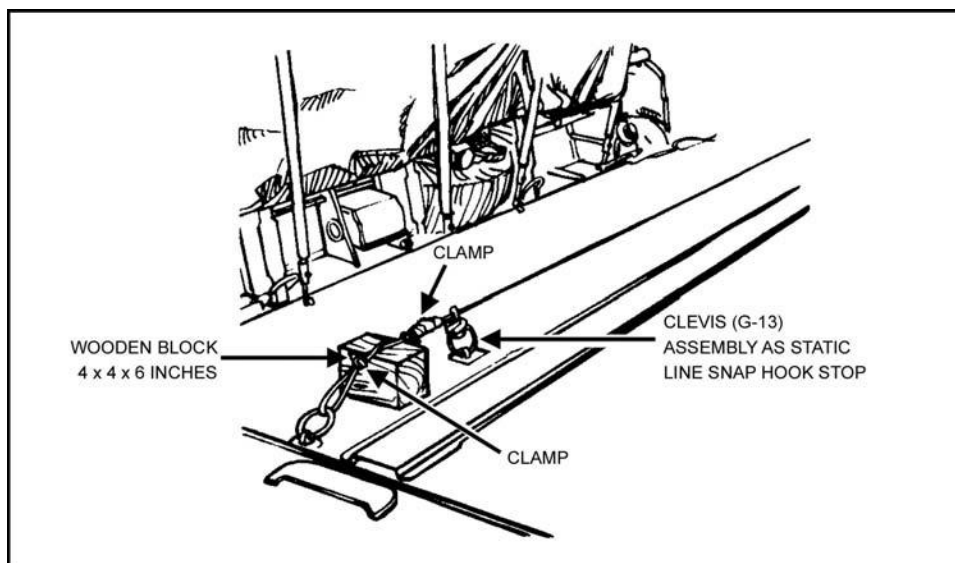

Figure 18-2. CH-53 anchor line installation.
(1) Install the anchor line cable on the port side of the floor (Figure 18-2, page 18-2) using the appropriate 5,000-pound tie-down fittings for the length of cable used (forward attachment point) and station number 522 (rear attachment point).
(2) Use one 1/4-inch or 3/8-inch steel cable (3/8-inch preferred), of an acceptable length, with four 1/4-inch or 3/8-inch cable clamps, lock washers, nuts, and bolts. The minimum installed length of the anchor line cable will be 8 feet between forward and rear attaching points (four to five jumpers). Ensure the installed anchor line cable is long enough so that a jumper's static line extends from the jumper to the anchor line cable without touching other jumpers in front of him in the stick.
(3) Route the anchor line cable directly through the forward and rear attaching point deck rings or use a steel stubai 85 snap link (with locking gate) between the anchor line cable and the aircraft attaching points. Ensure the locking gates on the snap links are facing up, locking to the aft of the aircraft, and taped. Ensure all tape is removed from the anchor line cable components and that the clamps are tight prior to every operation.